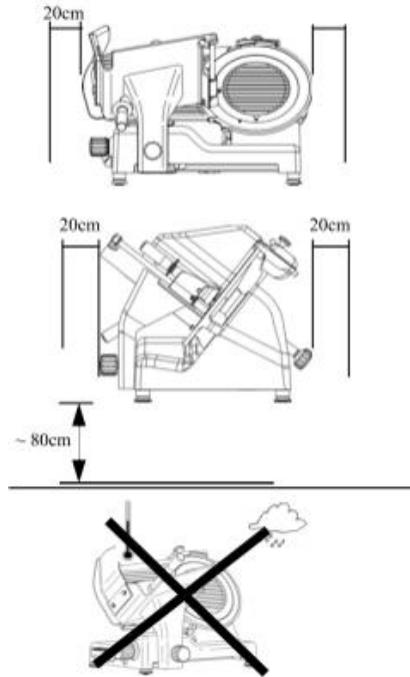

Fig. 14
- To securely use the slicer, keep at least 20 cm distance (fig. 14) from the slicer and walls, objects, cupboards, etc.